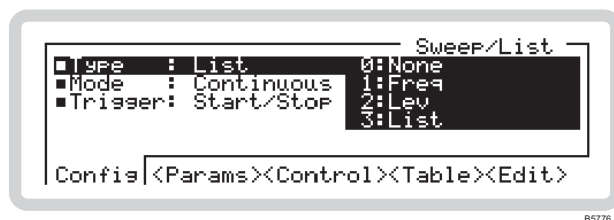
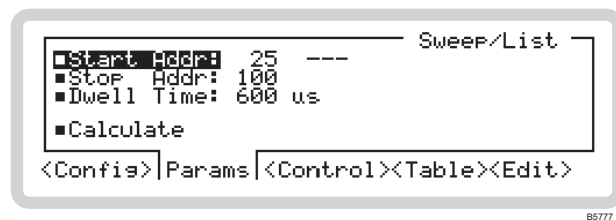

Fig. 3-81 Main sweep (list mode)
Fig. 3-82 Sweep parameter selection (list mode)
- Set up list mode sweeping on the main sweep screen (Fig. 3-81).
From the sweep menu of Fig. 3-81, touch <Params> or press **<TAB>** to display the parameter selection screen (Fig. 3-82).
From the sweep menu of Fig. 3-81, touch <Control> or press to display the list sweep control screen (Fig. 3-83).